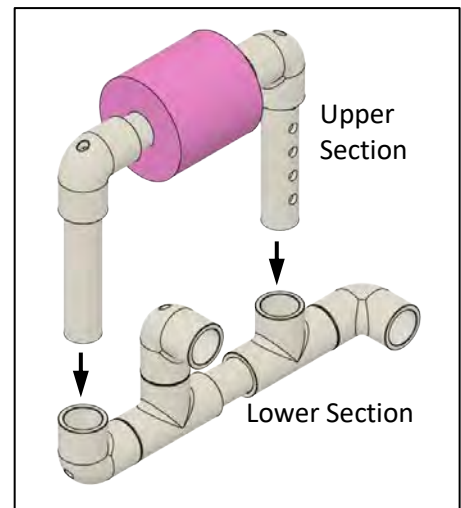

Figure 20
- ❑ Assemble the upper and lower frame sections (right and left sides). (Figures 20 & 21)